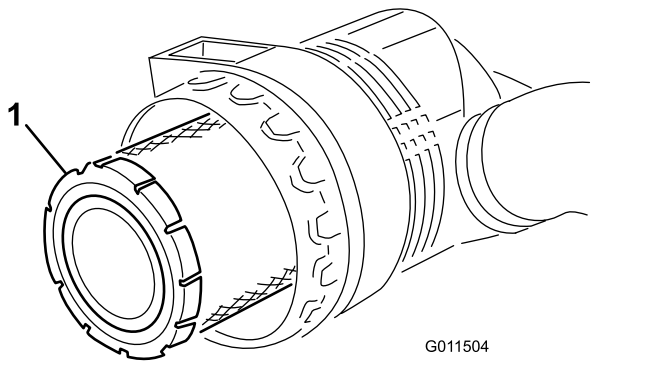

Figure 71
3. Remove the primary filter (Figure 71). Cleaning of the used element is not recommended due to the possibility of damage to the filter media. Inspect the new filter for shipping damage, checking the sealing end of the filter and the
4. Replace the primary filter (Figure 71).